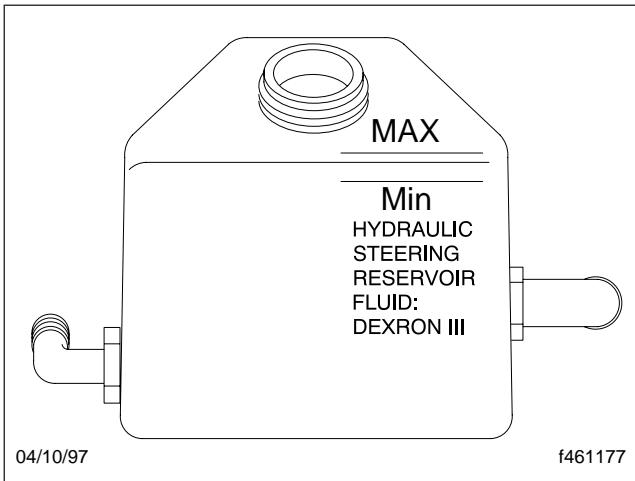

Fig. 11.3, Steering System Hydraulic Fluid Reservoir
8. *Check the fluid level in the steering system hydraulic fluid reservoir. See Fig. 11.3.*